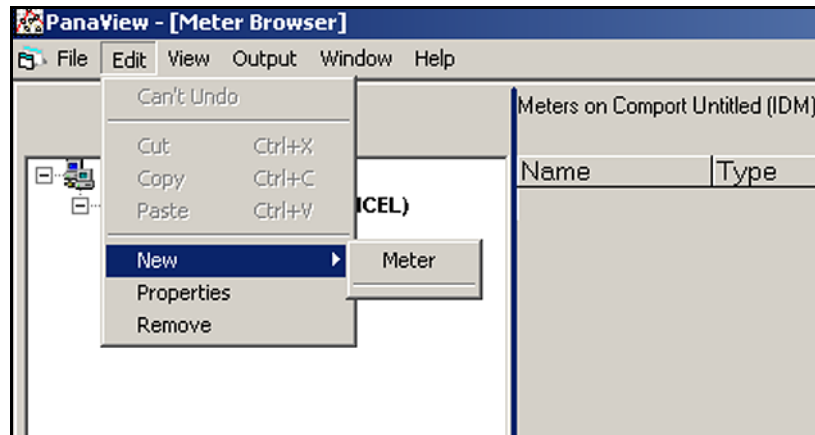

Figure 21: Edit Menu - "New" Option
2. Click on the "New" option in the "Edit" menu (see Figure 21 below).